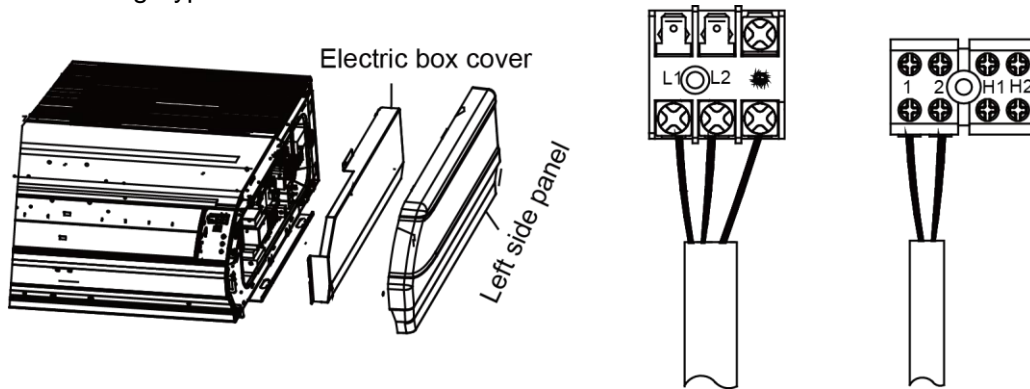

Figure 3-4-6
①.	The power cord and the wire of the fresh air valve are high-voltage, while the communication cord and connection wire of the wired controller are low-voltage. They should run separately against electromagnetic interference.
②.	The high-voltage and low-voltage lines should pass through the rubber rings at different electric box covers.
③.	Do not bundle the connection wire of the wired controller and the communication cord together, or arrange them in parallel, otherwise improper operation would occur.
④.	The high-voltage and low-voltage lines should be fixed separately and securely, with internal big clamps for the former and small clamps for the latter.
⑤.	Tighten the indoor/outdoor connection cord and power cord respectively on the terminal boards with screws. Faulty connection may cause a fire.
⑥.	If the indoor unit connection cord (to the outdoor unit) and power supply are wired incorrectly, the air conditioner may be damaged.
⑦.	Connect the indoor unit connection cord properly based on the corresponding marks as shown in Figure 3-4-4 to Figure 3-4-6.
⑧.	Ground both the indoor and outdoor units by attaching a ground wire.
⑨.	Unit shall be grounded in compliance with the applicable local and national codes.
(6) Electric wiring of outdoor unit side